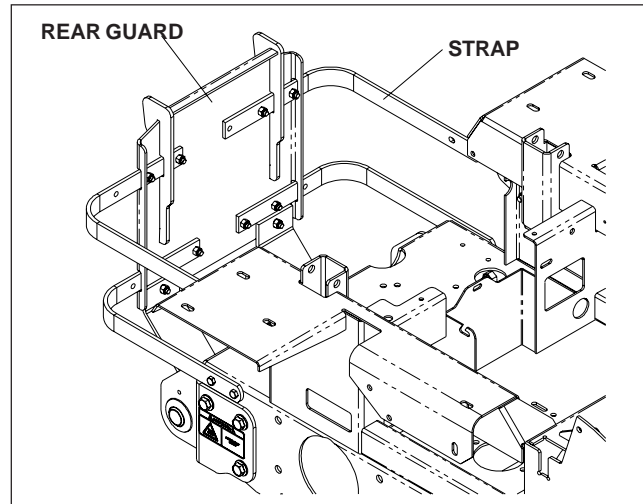

FIGURE 2
4. Remove the (10) 5/16 carriage bolts that secure the standard rear guard to the straps and skid plates. Remove the standard rear guard. Replace with the collection rear guard, and secure with the carriage bolts that were just removed. Figure 2.